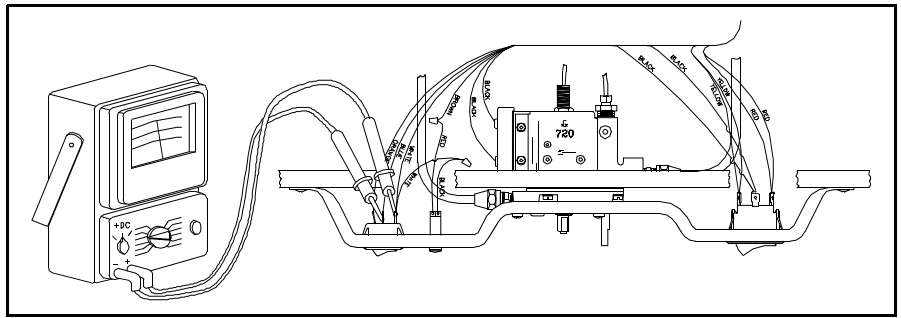

Figure 3.19 12 Volt Check at Blue and White Terminals
- To check for loose wire connections, set your Volt-Ohm meter to + 25 Volt scale. Check for presence of 12 volts at the Ignitor rocker switch from the center wire of the switch to DC negative, as shown in Figure 3.19. If present, proceed to Step 5.